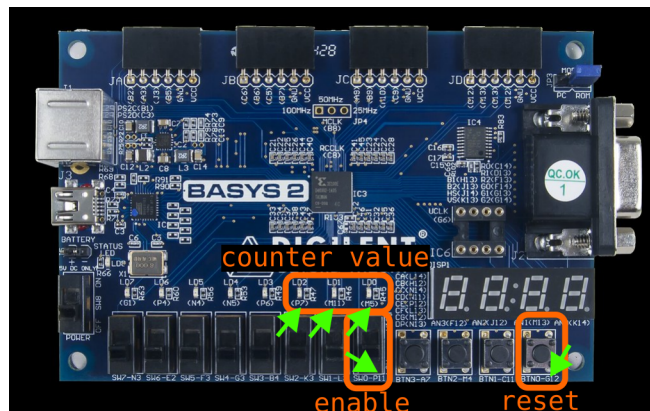

Figure 23: Basys2 Board
- As you can see at the Figure 23, I am going to use 'LD0, LD1, LD2' for showing output of CounterValue
- for example we want to connect enable to SW0, SW0 is connected to P11 pin of fpga as shown in the figure 23 by green arrow, so we are going to select P11 pin for enable port.